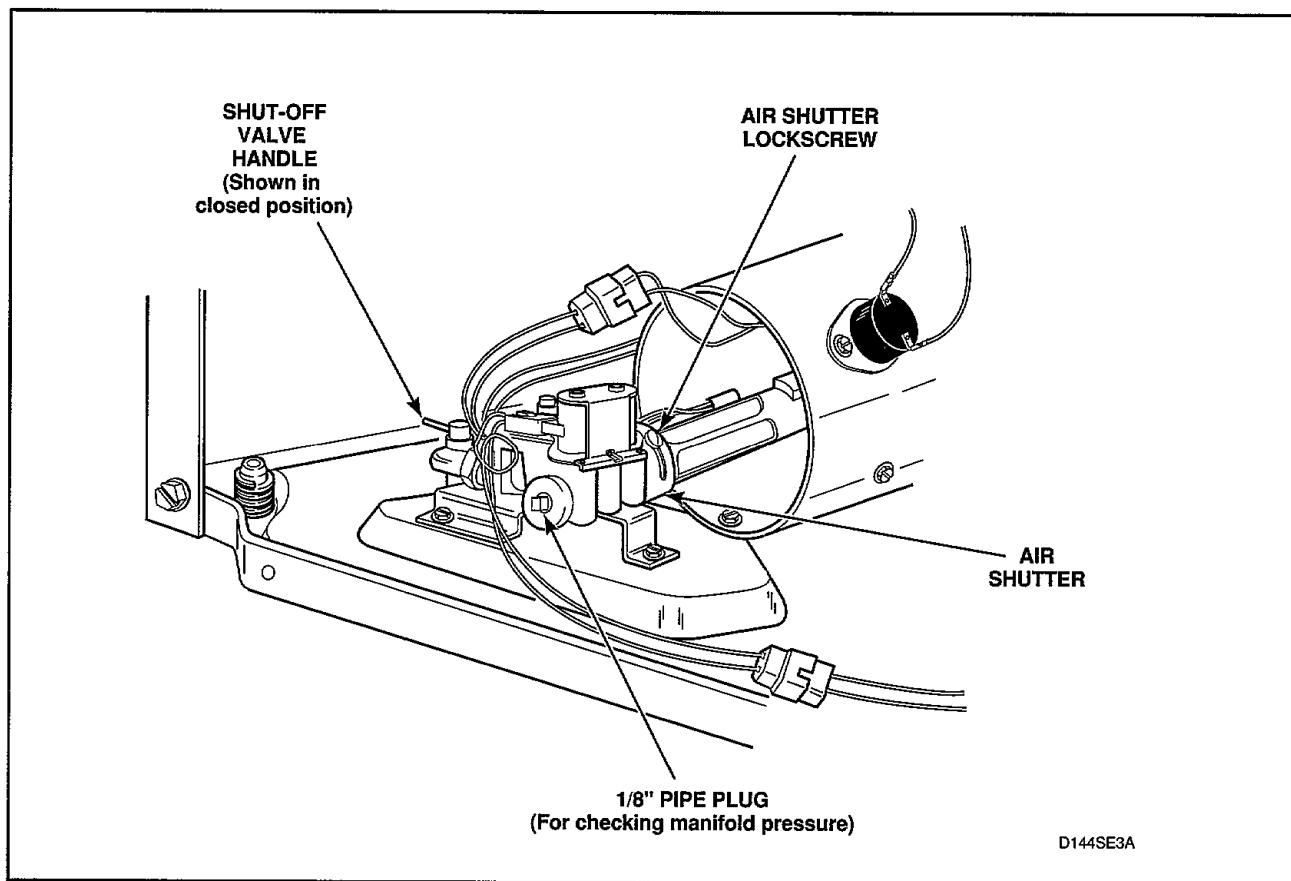

Figure 50
- Allow the dryer to operate for approximately five minutes, then loosen the air shutter lock screw, *Figure 50*.
- After proper flame is obtained, tighten air shutter lock screw firmly, *Figure 50*.
- Close gas shut-off valve, *Figure 50*.